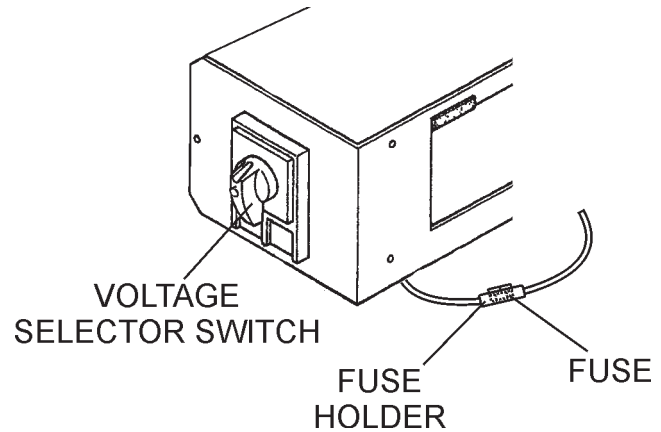

Figure 14. Blower Fan Fuse
This unit has an intake fan located at the rear of the machine to draw outside air into the cabinet to cool the engine. The fan has a 10 amp AC fuse located beneath the **Voltage Selector Switch** (Figure 14).
A wide range of voltages are available to supply voltage for many different applications. Voltages are selected by using the **voltage selector switch** (Figure 14). To obtain some of the voltages as listed in Table 6 (see below) will require a fine adjustment using the **voltage regulator (VR) control knob** located on the control panel.